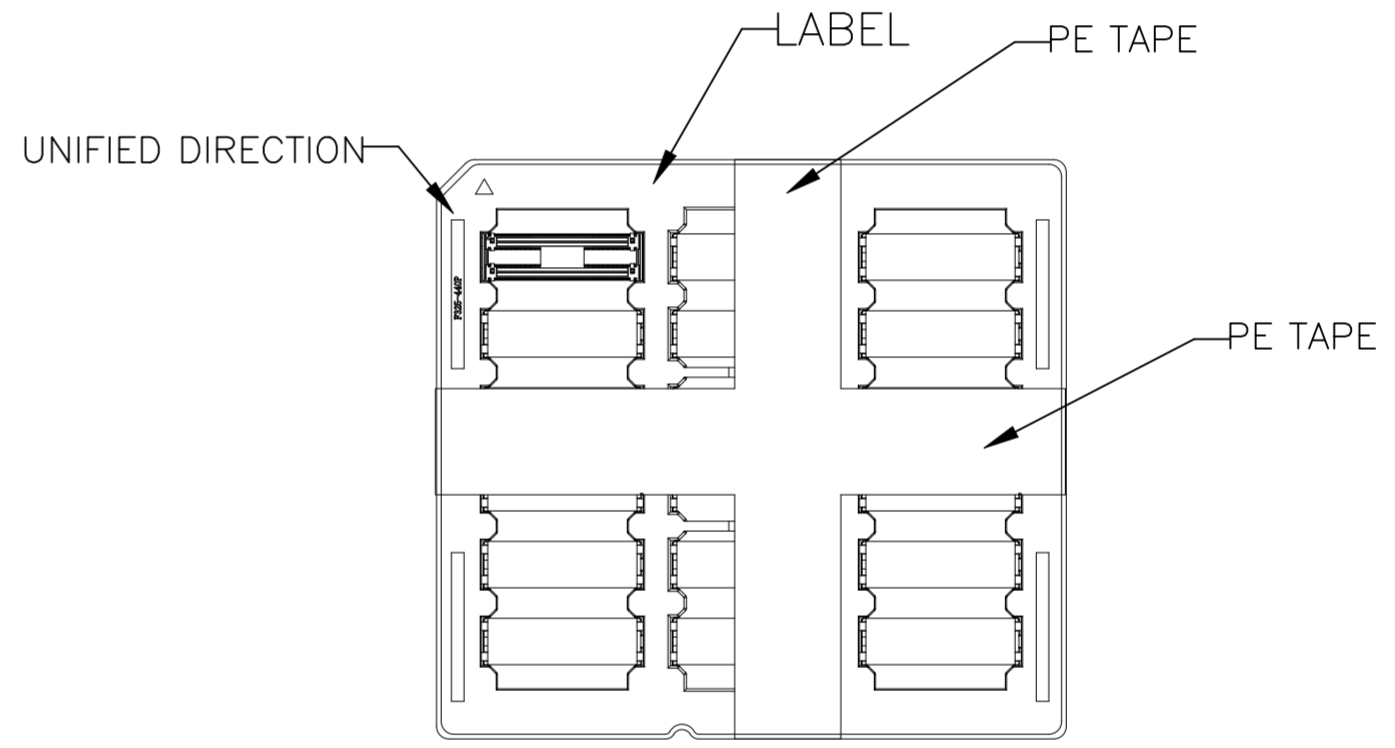

FIGURE 2
2. THE ENTIRE TRAY IS FILLED WITH PRODUCTS, AND THE TRAY IS STACKED IN THE SAME DIRECTION. 20 TRAYS OF PRODUCTS PLUS 1 EMPTY TRAY FORM 1 BUNDLE, WITH LABELS ATTACHED TO THE EMPTY TRAYS. PE TAPE IS USED TO CROSS WRAP AT LEAST 2 TURNS (WIDTH 60MM) AS SHOWN IN FIGURE 2